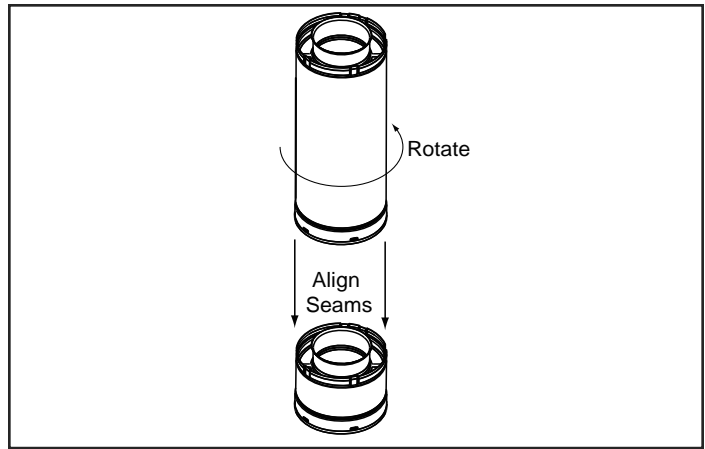

Figure 3.7 - Connect the inner starter with the next section of inner vent pipe.
3. Drill three pilot holes into the Inner Starter and secure the assembly with three sheet metal screws. (Figure 3.7)